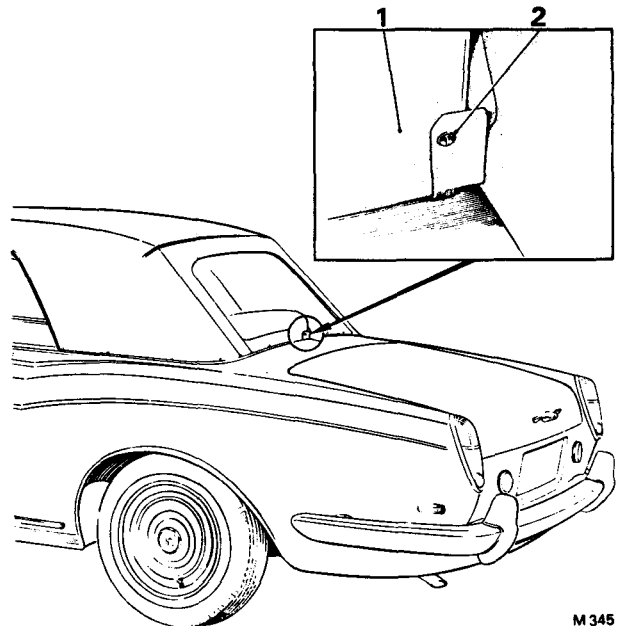

FIG. S36 POSITION OF THE REAR SEAT BACKREST BRACKETS (Convertible Cars)
- (b) **Convertible.** Remove the screws securing the backrest to the two brackets situated one at each end of the backrest (see Fig. S36).